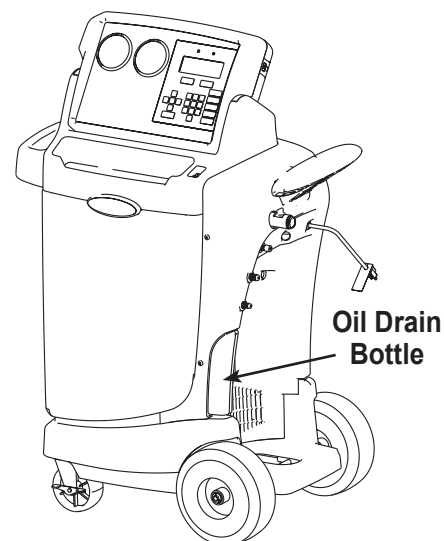

Figure 11
1. Verify the oil drain bottle on the side of the unit is empty. See Figure 11. Recover refrigerant as outlined in this manual under *Recover Refrigerant from a Vehicle*.